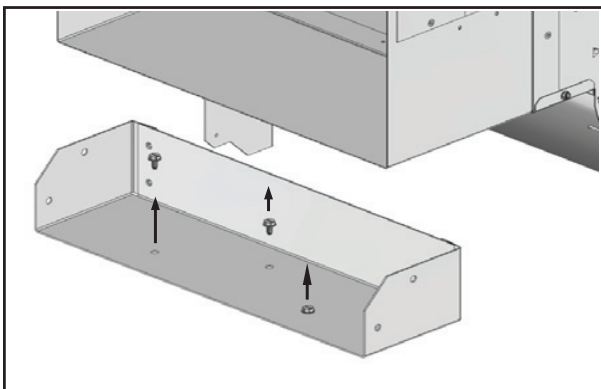

Fig. 46 - Remove Horizontal Blower Bracket
6. Remove and discard horizontal blower bracket by removing (3) screws. See Fig. 46.